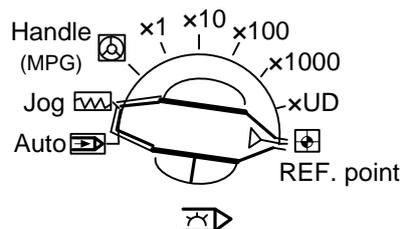

Fig. 1-6 Mode selection knob
4. Mode selection knob, which is used for mode selection, as shown in Fig. 1-6.